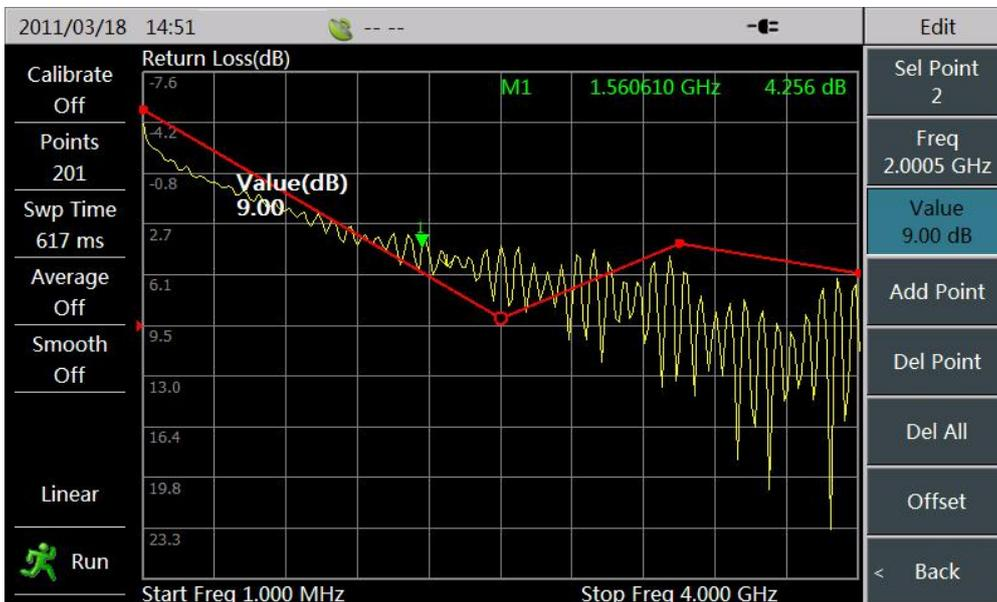

Figure 3.20 Alarm for Limit Line When Overstepping the Boundary
3. **Alarm:** The Analyzer also has alarm function that users can turn on or off this function by [Alarm Off On] when limit line is in use. If test curve of DUT exceeds the set limit line when the alarm function is turned on, Analyzer will raise a “beep ... beep” alarm, through which users can judge whether the product is qualified or not. Test curve in Figure 3.20 has exceeded the set limit line.